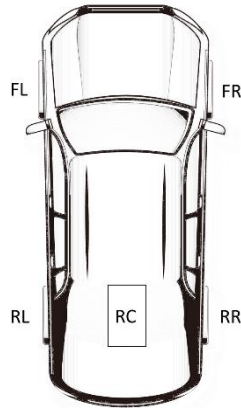

Figure 17 Wheel reference name
- **Name** – This is the reference name for the sensor and represents the type of measurement that it will generate. The value must be unique among all the configured and enabled sensors, no two active sensors may use the same value. Depending on the setup it should be one of the following (See Figure 17).